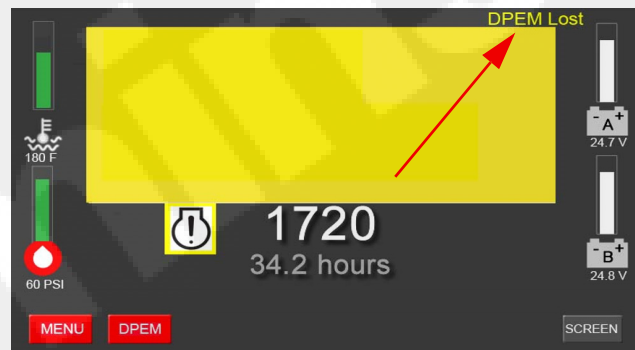

Figure 2-8 DPEM Lost Fault Screen
- **Communications have been lost with the Digital Panel Expansion Module (DPEM)**. As shown in Figure 2-8, "DPEM Lost" will appear on the FPDP User Interface Screen if communications between the FPDP and DPEM are compromised.